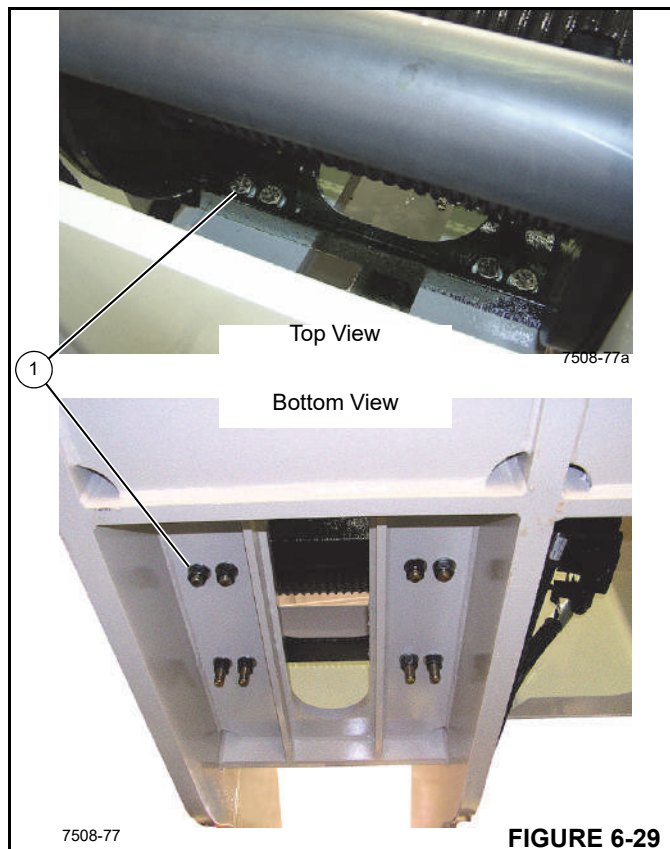

FIGURE 6-29
Torque the eight (8) 3/4" mounting bolts (1, Figure 6-29) to 272 Nm (200 lb-ft).